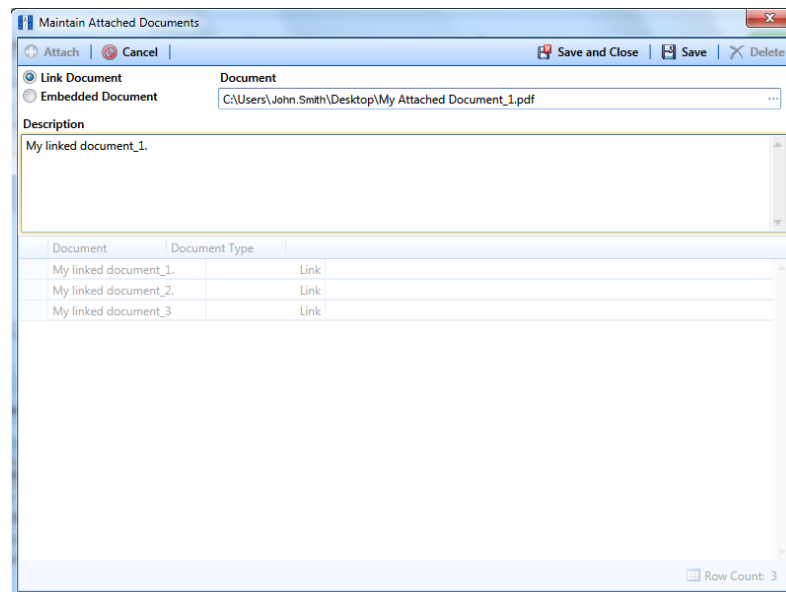

Figure 3-14. Maintain Attached Documents
- 6 When the *Maintain Attached Documents* dialog box opens, click  **Attach** and then select one of the following options (Figure 3-14, page 103):
- 7 If you selected *Link Document* in step 6 and want to link to a file on a local computer or company network, follow these steps (Figure 3-14):